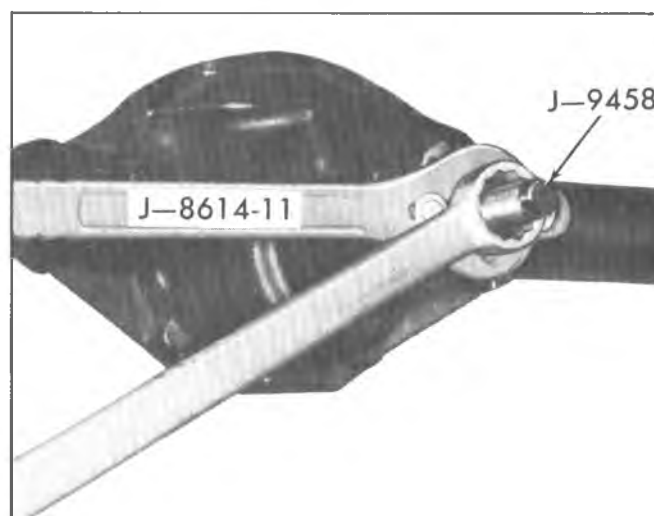

Fig. 23A—Drive Pinion Flange Installation
- Install Companion Flange Holding Tool J-8614-11. See Figure 23A.